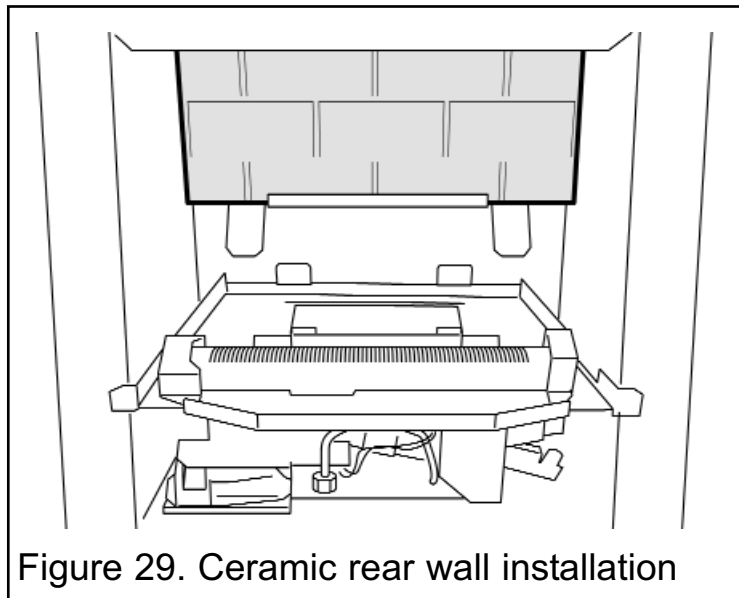

Figure 29. Ceramic rear wall installation
1. Fit the ceramic rear wall inside the "L" bracket on the back face of the burner compartment. Push the ceramic wall flat against the back face of the burner compartment (See figure 29).